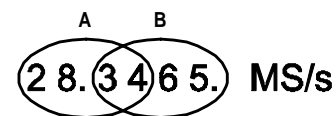

Figure 9. Symbol rate low and high-resolution display
**Symbol Rate:** (see Figure 9) For example; if the current Symbol Rate is 28.3465 Msymbols/s, changing to Alt-1 Mode (ALT LED flashes) and then pressing 5 displays the four most significant digits on the front panel (i.e., 28.34). At low resolution (A), pressing the up ↑ or down ↓ arrow button advances the Symbol Rate up or down in 10 Kbit/s steps (i.e., 28.35, 28.36, and so on). Pressing and holding down the up ↑ or down ↓ arrow button will increase the step size further.